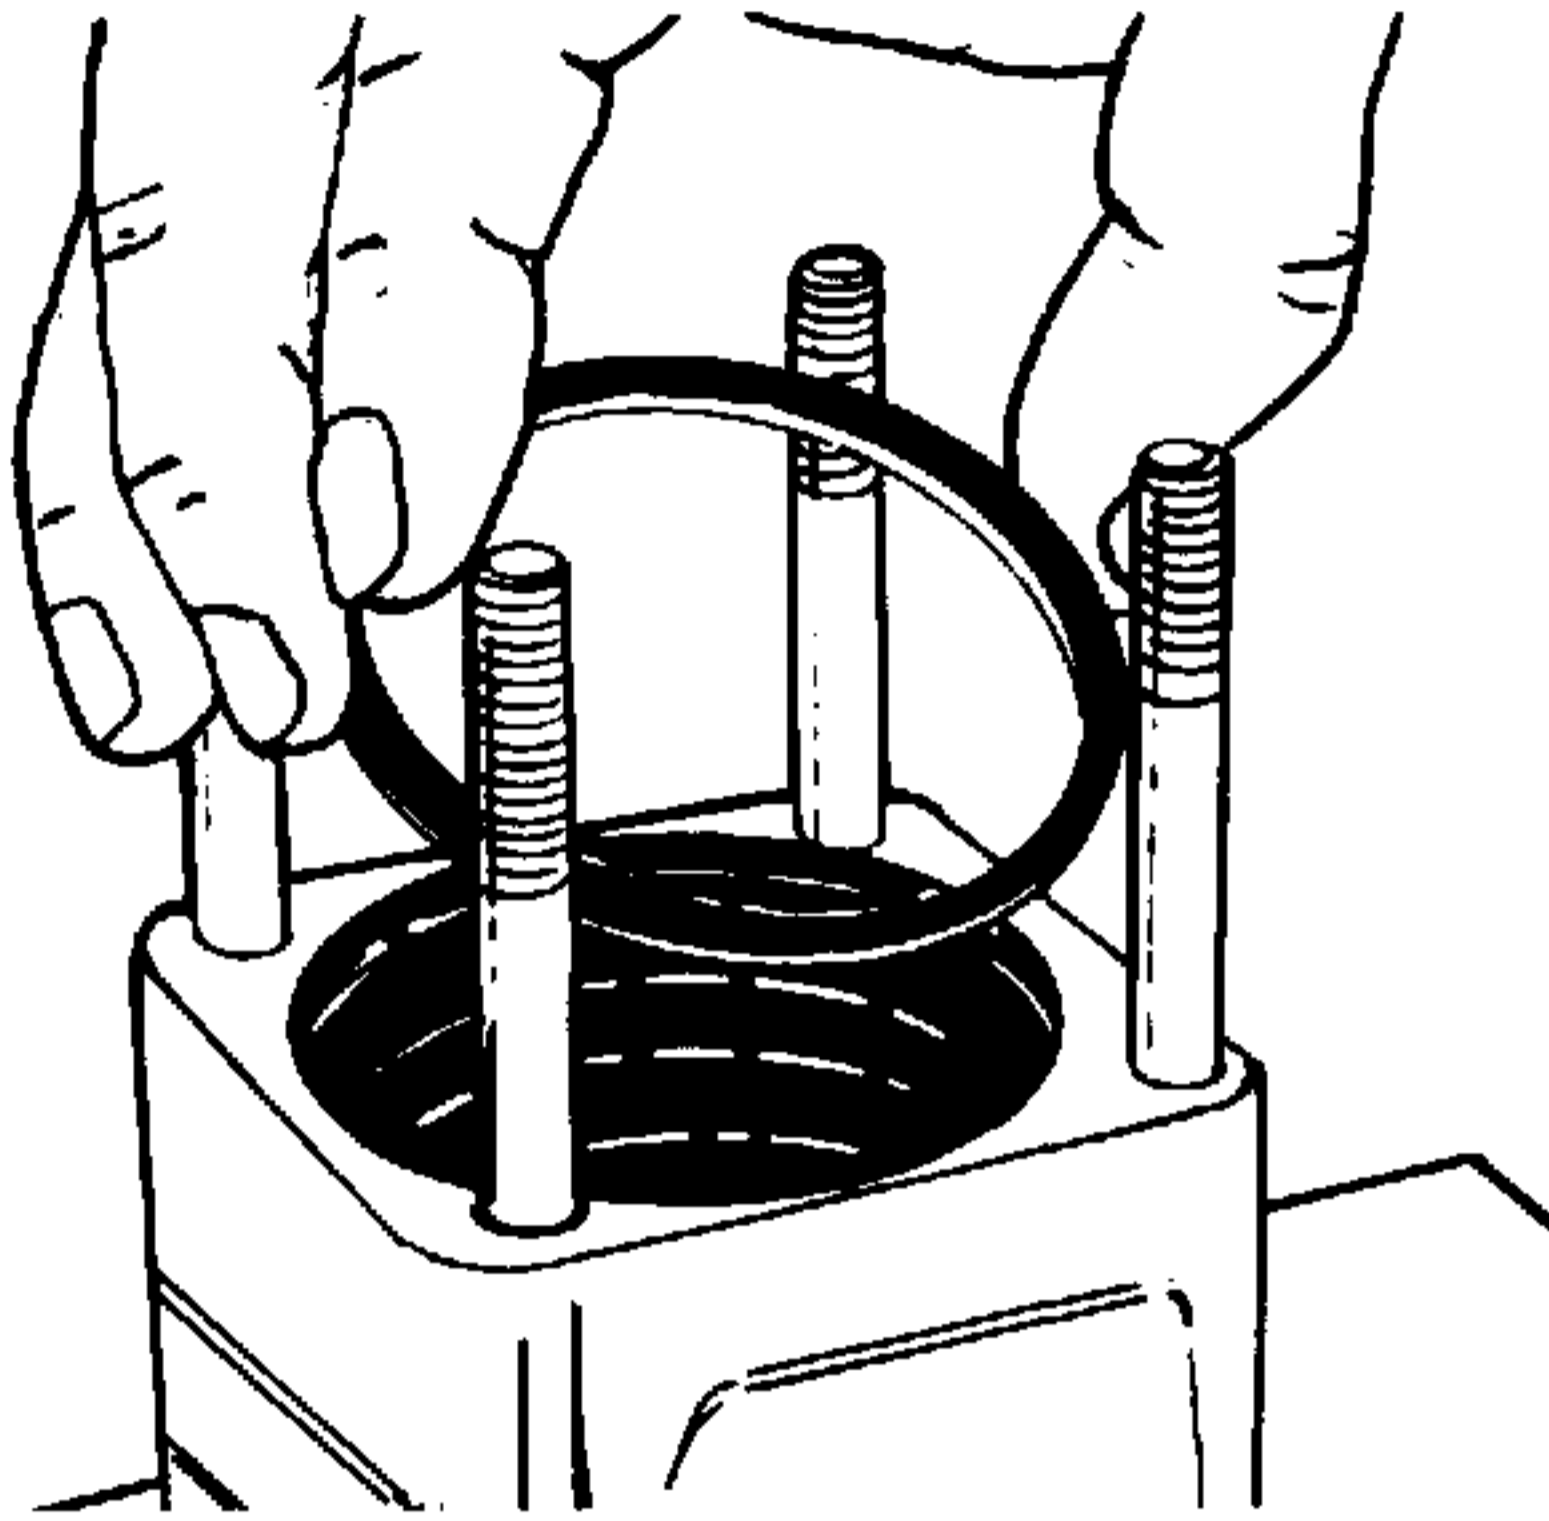

Figure 4-70. Installing Bearing Spacer.
23. Place the bearing spacer (25) onto the face of the upper cover plate (30). See Figure 4-70.